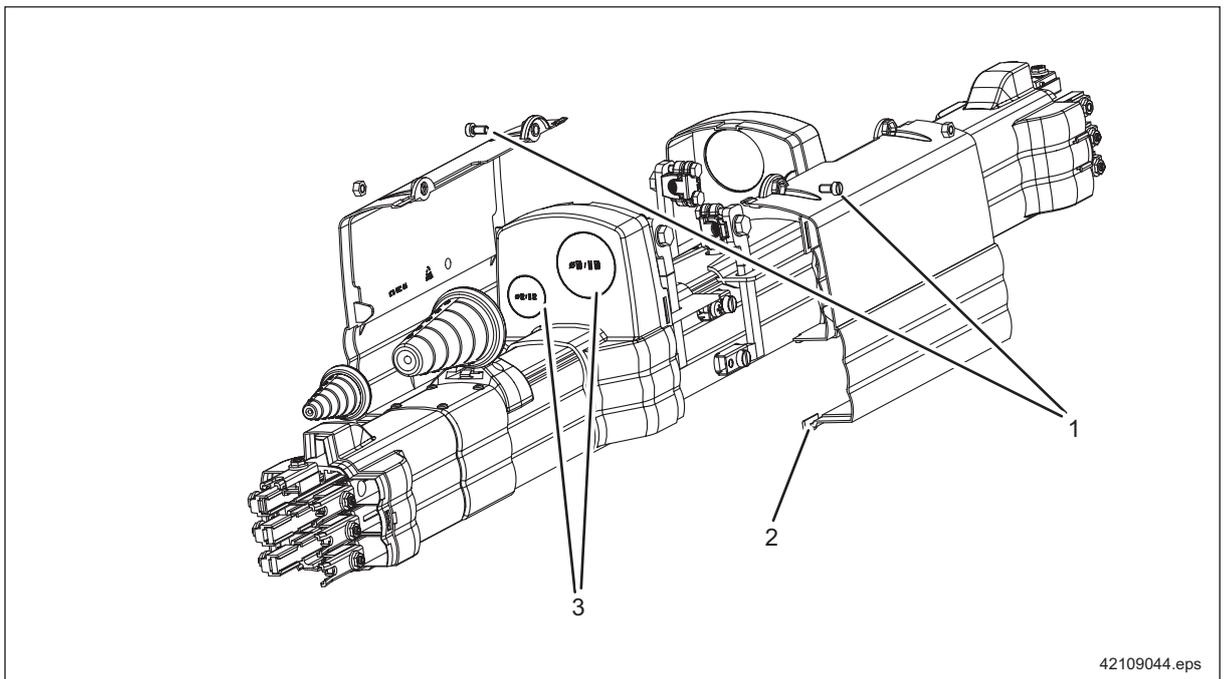

Fig. 29
To do this, remove two screws (1), ⇒ Fig. 29, Page 33 and lever off tab (2) on the middle of the enclosure with a screwdriver.